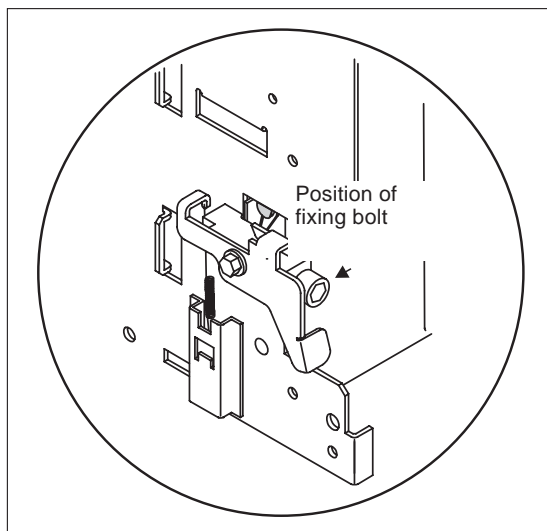

Fig. 2-20:
- ① Remove the two fixing bolts (M12) on the left and right side of the extension rail. This applies to the AE-SH series and AE4000–6300-SS (see fig. 2-20).